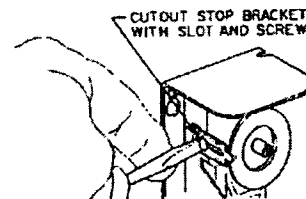

Fig. 4 - All models have a screw type cutout stop. The stop screw must be loosened and moved to the stop setting desired. Tighten screw after setting is made.
3. Loosen the cutout stop screw, slide the screw to the front of the temperature control against the plastic step behind the dial and tighten the screw. (See Fig. 4.)